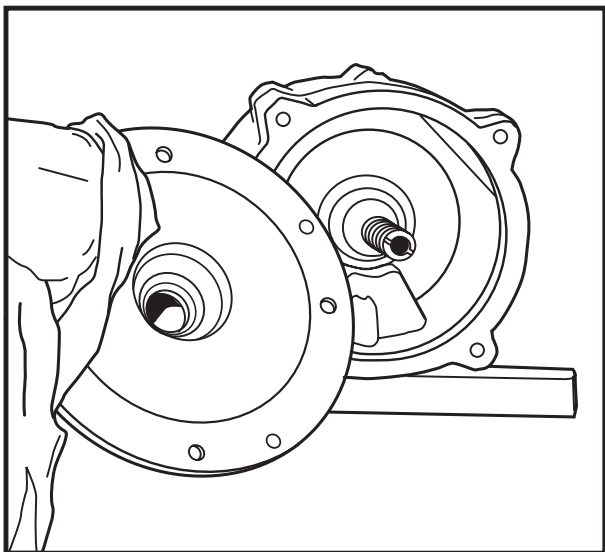

Fig. 19
10. Thoroughly clean inside of seal chamber and pocket where new seal is to be installed. See Figure 19. Use rags and solvent cleaner.